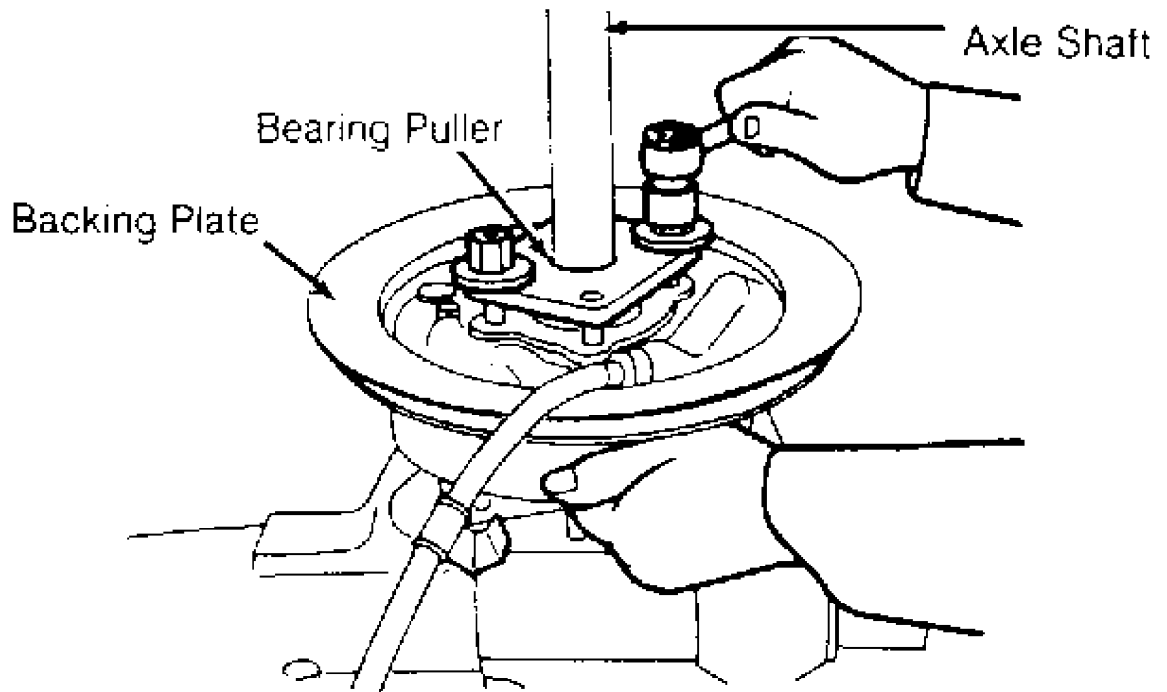

Fig. 2: Removing Bearing Case from Axle Shaft
2) Attach Bearing Puller (MB990787-01) to rear of backing plate to remove bearing case from axle shaft. See Fig. 2. Using equal pressure to avoid binding, tighten puller nuts diagonally to remove bearing case. Using hammer and drift, remove bearing outer race from bearing case. Remove oil seal from end of axle housing with Slide Hammer and Adapter (MB990211).